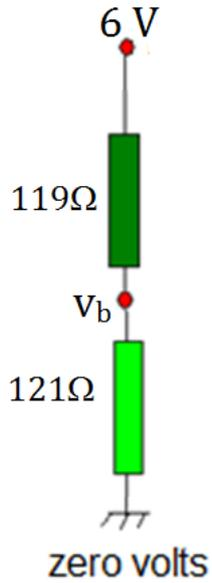

Figure Q3c
- (c) Calculate the potential,  $v_b$ , and the current through the two resistors in figure Q3c. **(5 marks)**
Figure Q3c and Q3d over the page....
Question 3 figures Q3c and Q3d....